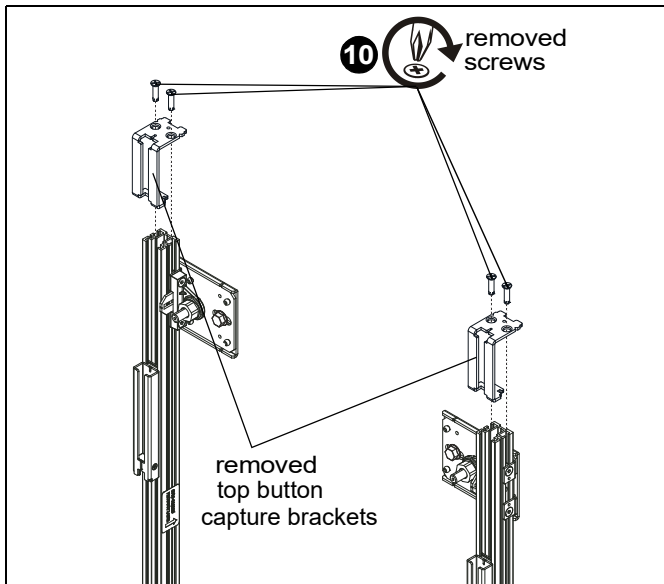

Figure 24
10. After the top extender upright (F or G) is installed, install top button capture bracket and screws (removed in Step 1 of **Installing Extender Kit (DVM27UE) Section**. (See Figure 24)